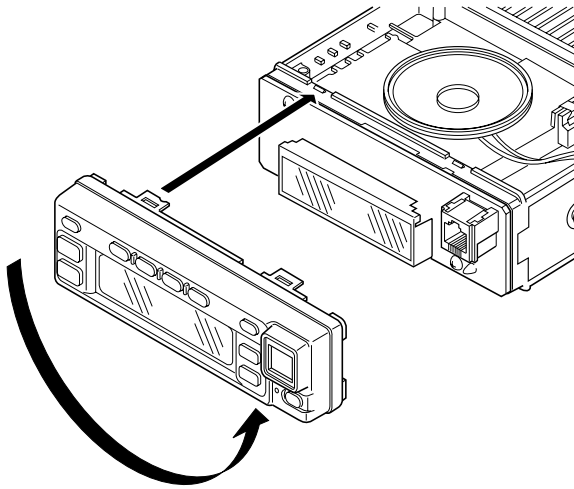

Fig. 17
- Rotate the control panel 180 degrees and mount it on the transceiver. Refit the two halves of the case to complete installation. (Fig. 17)